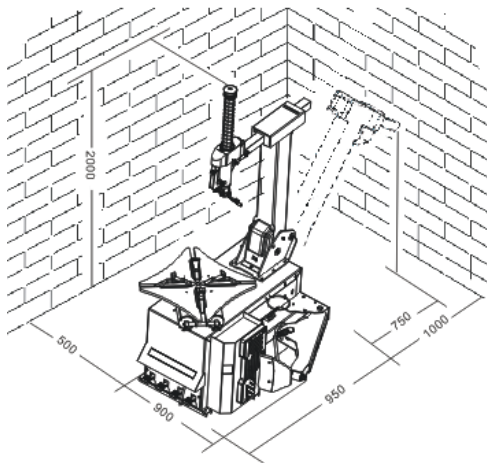

Fig. 2
- To create a safe and ergonomic alignment of the machine, it is advised to keep a minimum distance of 50 cm from surrounding walls (fig. 2 and 3). This way all parts of the machine can operate correctly and without restriction.